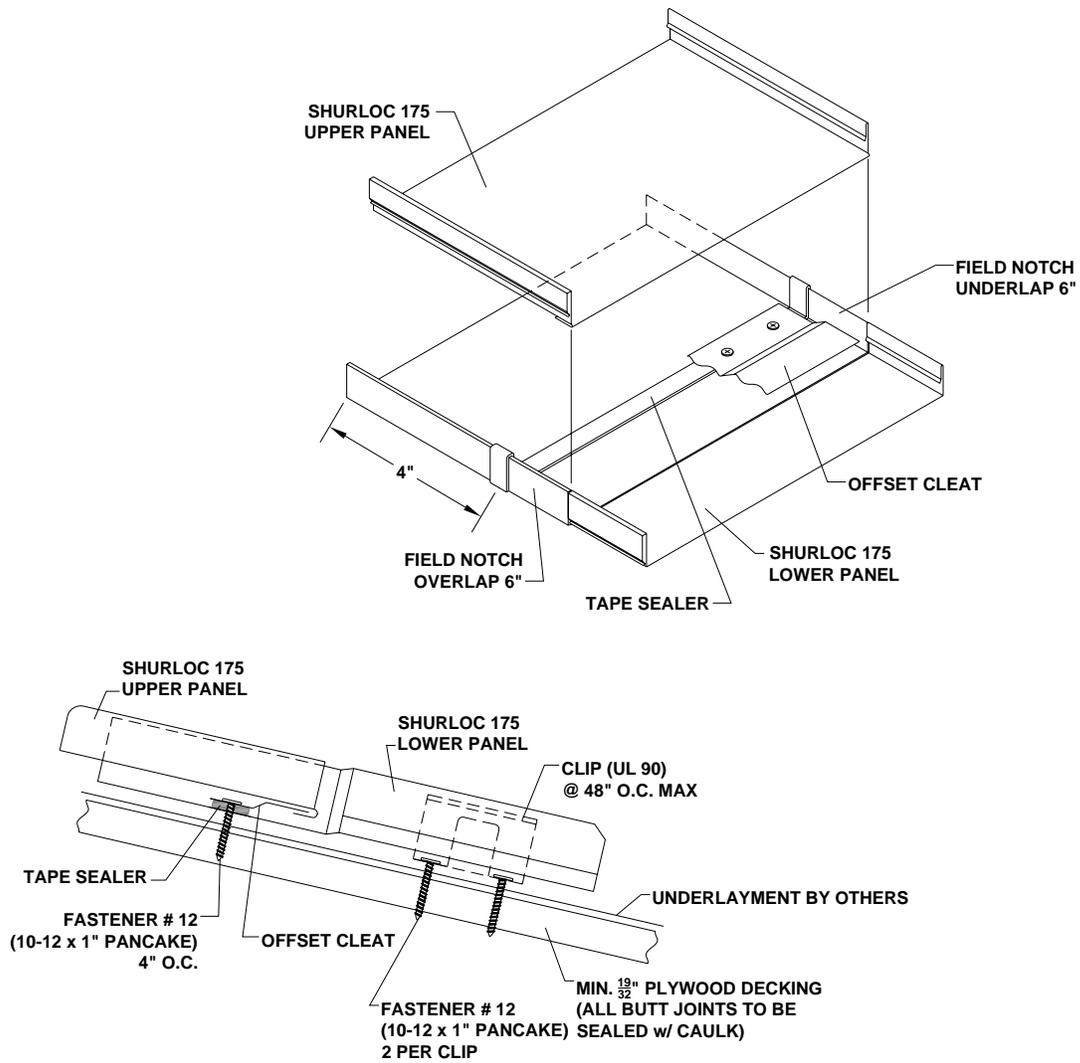

Figure 5: Endlap Detail
**Endlap:** The endlap shall be installed as shown in Figure 5.